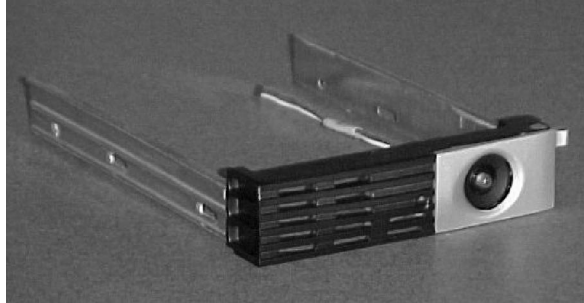

Figure 5-2: Hard Drive Shuttle
- 7 Position the replacement drive in the shuttle. Be sure the shuttle is oriented as shown in Figure 5-2 and the replacement drive has its component side down.